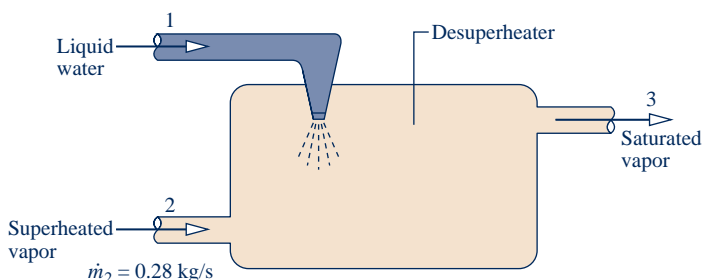

Fig. P6.86
6.86 By injecting liquid water into superheated steam, the *desuperheater* shown in Fig. P6.86 has a saturated vapor stream at its exit. Steady-state operating data are provided in the accompanying table. Stray heat transfer and all kinetic and potential energy effects are negligible. (a) Locate states 1, 2, and 3 on a sketch of the T - s diagram. (b) Determine the rate of entropy production within the desuperheater, in kW/K.